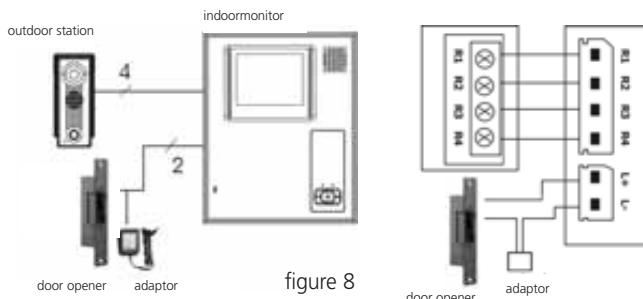

figure 8
- To open the door from the monitor (figure 8).
- You need an electric door opener with its own power supply. The door-open-contact of the monitor is a potential-free normally-open (NO) contact.